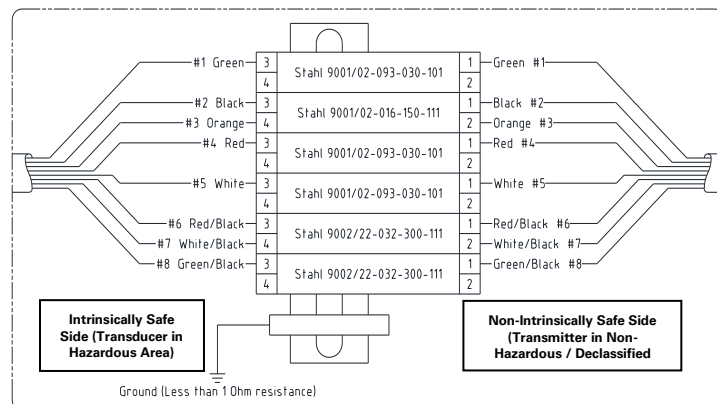
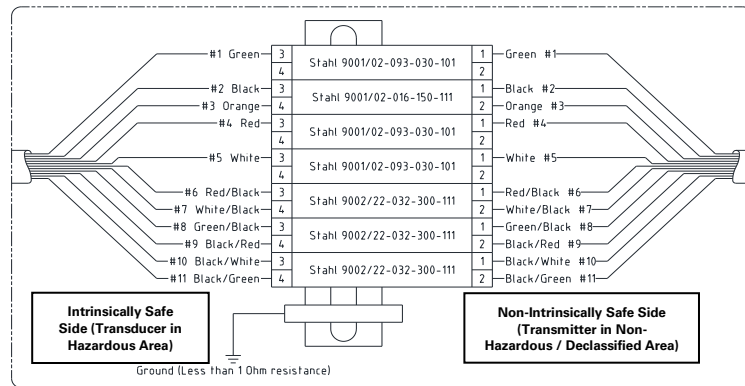

Figure 3.10: Standard IS Barrier Connection General Applications (Up to 200 °C)
Figure 3.11: IS Barrier Connections - High Temperature Applications (200 °C to 450 °C). (Includes Transducer Block (Dome) RTD)
- Connect the **transducer cable** to the **intrinsically safe side** of the IS barriers according to Figure 3.10 (*General Application / Standard IS Barrier Configuration*) or Figure 3.11 (*High Temperature IS Barrier Configuration*) as appropriate for your configuration.
- If the transducer includes a transducer block RTD for transducer block temperature measurement, use Figure 3.11. Otherwise, use Figure 3.10.